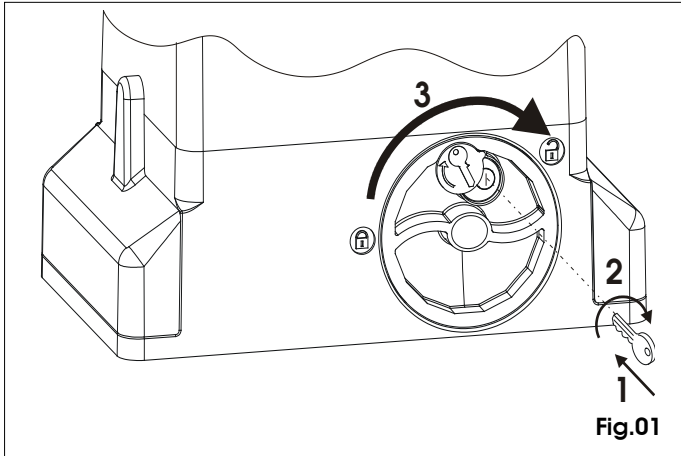

Fig.01
- 1) Insert the key provided and turn it clockwise as shown in Fig. 01 ref. 1 and 2.
- 2) Turn the release system clockwise, until the mechanical stop is reached, Fig. 01 ref. 3.